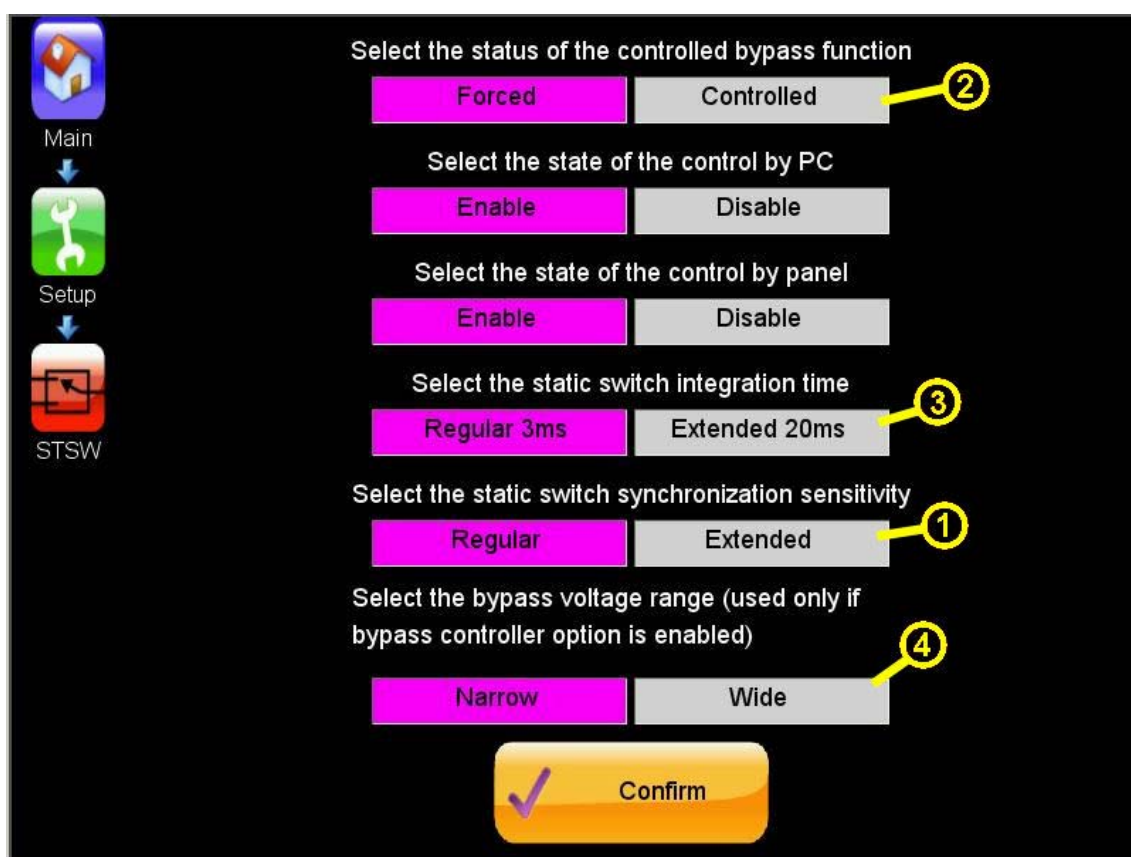

Figure 92: Setup > STSW > High-level setup
See item 1 in Figure 92.
Note: the synchronization sensitivity option has effect only if the “controlled bypass” function on this same screen is set to “controlled” (see item 2 in Figure 92).
See items 3 and 4 in Figure 92.